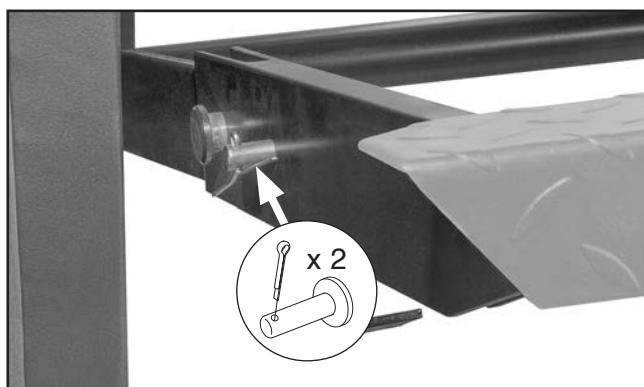

Figure 10. Location of hole in foot pedal frame (1 of 2 shown).
4. Insert (2) 12 x 45mm clevis pins in holes in foot pedal frame and secure with (2) M3 x 50 cotter pins, as shown in **Figure 10**.